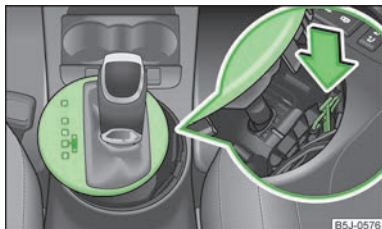

Fig. 88
- > Use a finger to press the yellow plastic part in the direction of the arrow » Fig. 88.